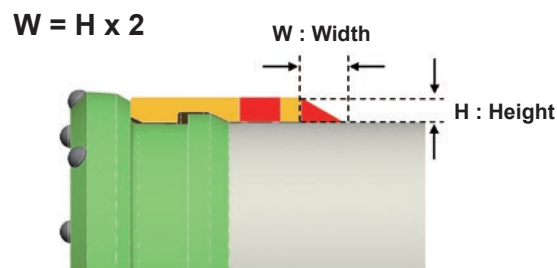

Figure 8 : Fillet welding
4. When welding on the circumference, normally three passes are recommended. Take sufficient time to weld the casing using the correct welding rod. The width (W) of the fillet weld should be duplicate of the height (H) of the fillet weld ($W = 2H$). **See Figure8.**